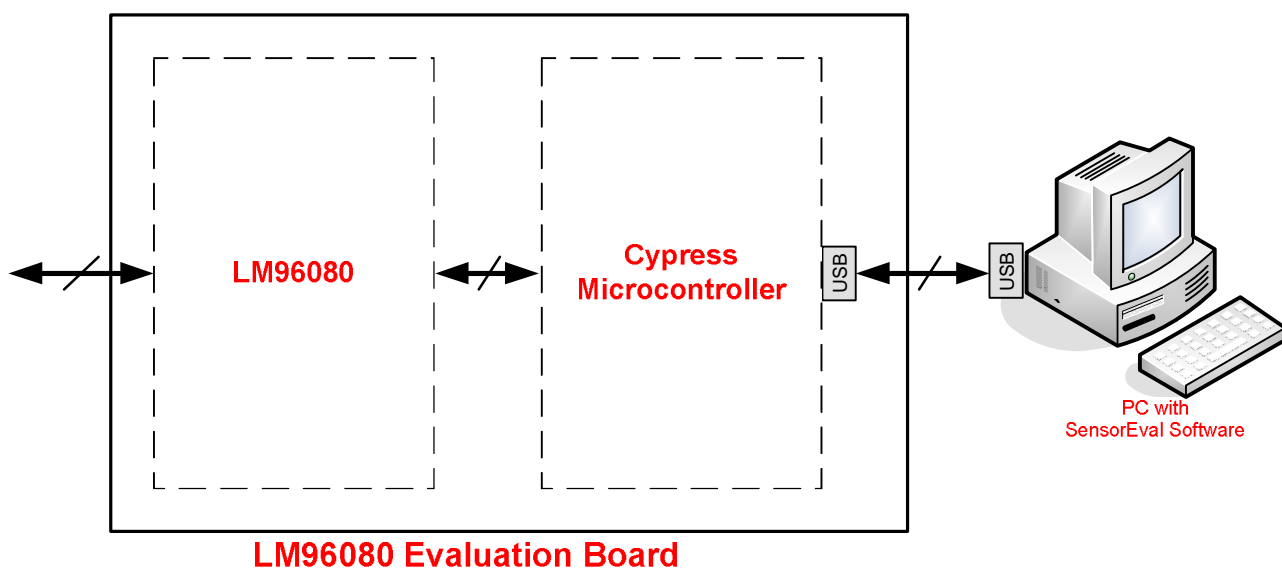

Figure 1 – Equipment Connection Diagram
**2.2. Equipment Connection Diagram** – figure 1 shows the connection diagram between the board and the PC.